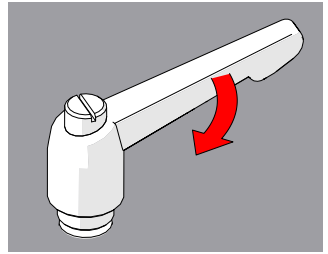

Fig. 221 - Tighten handle
3. Release the lever and utilize the new tightening position (*Fig. 221*).